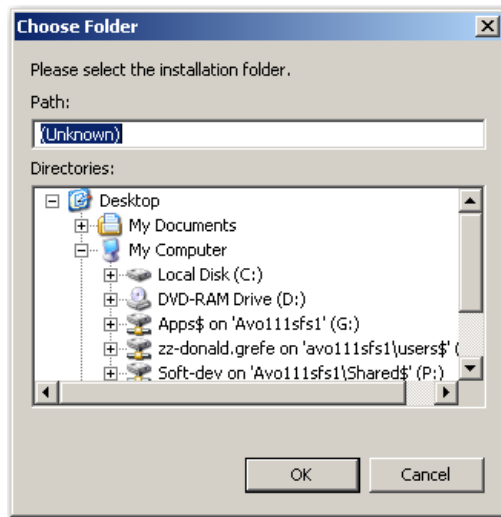

Figure 25 Choose Folder
7. Click **Change** and the *Choose Folder* dialog appears (Figure 25).